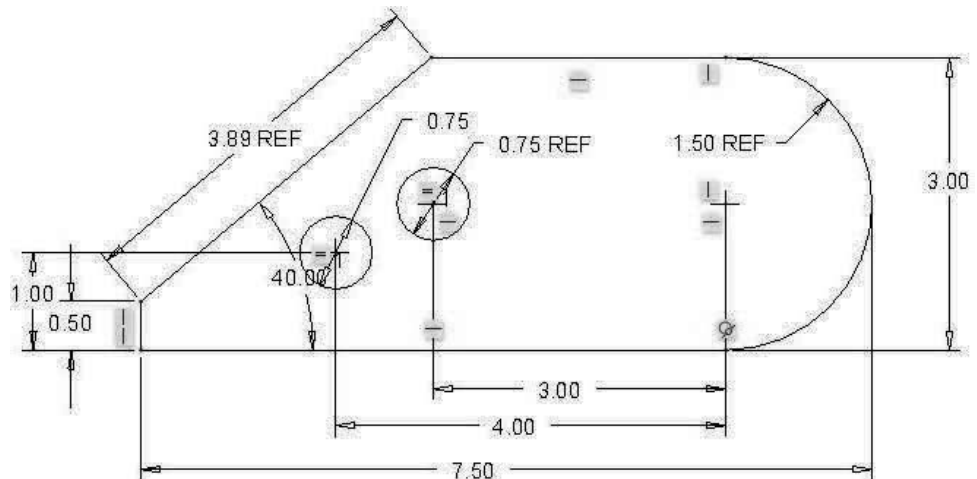

Figure 3-24 Design Intent Dimensions
**Step 9:** Use  to add a reference dimension showing the diameter of the other small hole, the value of the big radius, and length of the slanted line. These dimensions are not needed to define the figure, thus they are for reference only (Figure 3-24). Normally you would not do this, but we are practicing here.